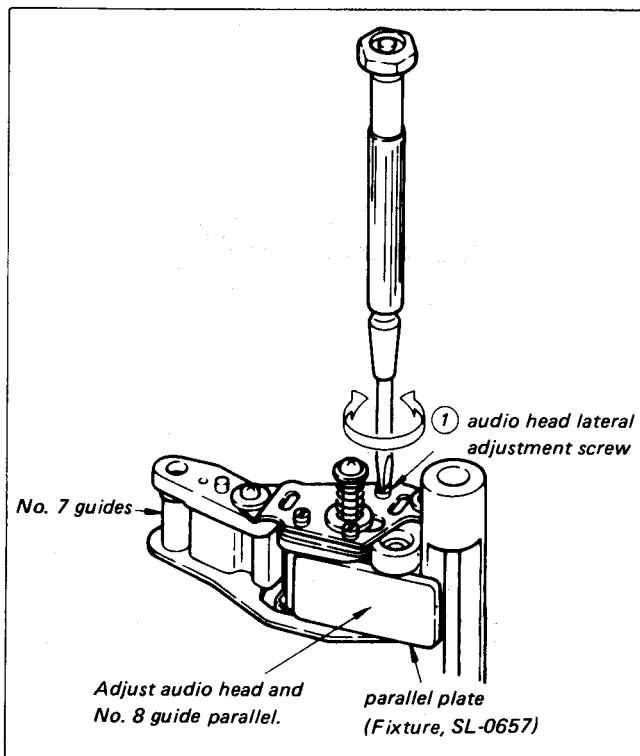

Fig. 4-8.
- 1) Position the parallel plate (Fixture, SL-0657) at shown in Fig. 4-8, and turn audio head lateral adjustment screw ① to adjust the audio head vertically.